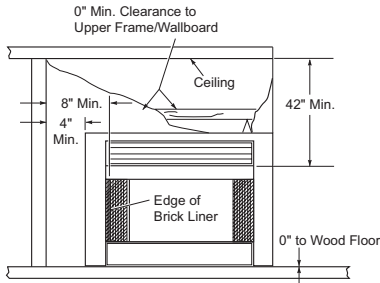

Figure 5 - Minimum Clearance - Front View
Minimum Wall and Ceiling Clearances (see Figures 5 and 6, page 9)
- A. Clearances from the edge of liner to any combustible wall should not be less than 8" (see Figure 5).